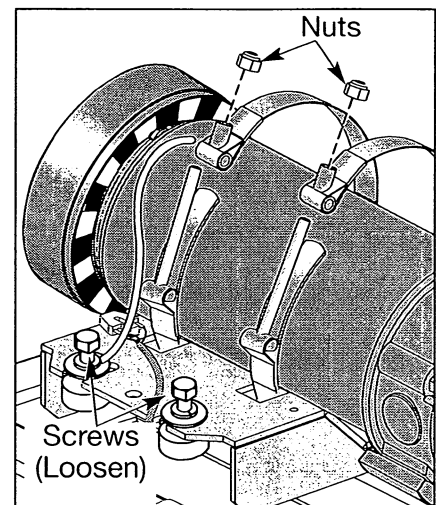

Figure 12
- A. Using a 1/2" socket wrench, loosen (but do not remove) the two screws on the motor saddle. See Figure 12.
- A. Using 7/16" open end wrench, remove the nut on each motor strap and remove the motor straps from the motor saddle. See Figure 12.